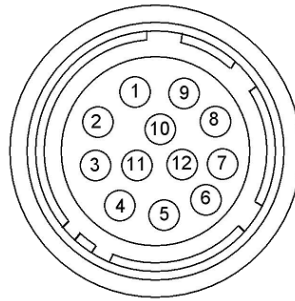

Figure 2: Camera Power Connector Pin-outs.
The 12-pin Hirose connector provides power and all external input/output signals supplied to the camera (Figure 2). The connector is a male HIROSE type miniature locking receptacle #HR10A-10R-12PB (71). The optionally purchased power supply ships with a power cable that terminates in a female HIROSE plug #HR10A-10P-12S (73). The following table shows power connector pin mapping.